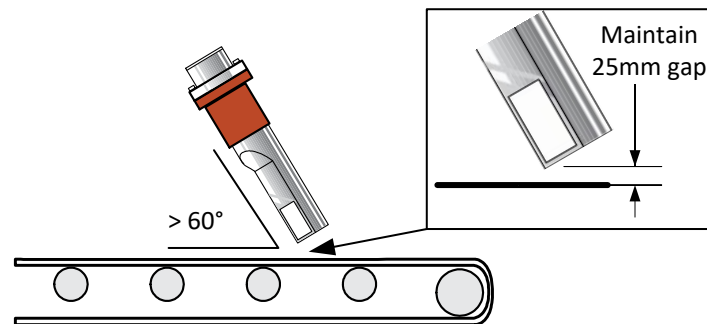

Figure 10: Hydro-Probe angled at  $45^\circ$  to reduce build-up
- The Hydro-Probe body can be installed at an angle of between  $90^\circ$  and  $60^\circ$  to the conveyor belt to reduce build-up of material. It is important to maintain the  $45^\circ$  angle to the material flow and the 25mm gap to the conveyor belt see Figure 10.